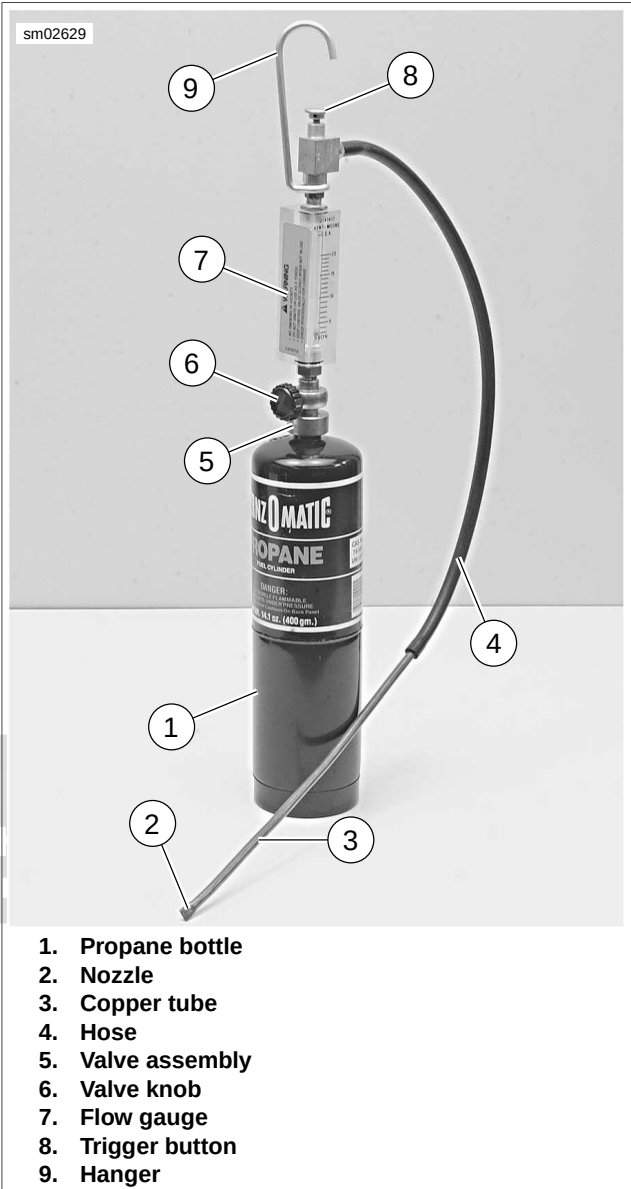

Figure 4-45. Leak Tester
- See Figure 4-45. Make sure valve knob (6) is closed (fully clockwise).
- Screw valve assembly (5) onto propane bottle (1).
- See Figure 4-45. Press and hold trigger button (8).
- Slowly open valve knob (6) until pellet in flow gauge (7) rises to between 5 and 10 SCFH on gauge.
- See Figure 4-45. Press and release trigger button (8) to dispense propane. Tone of engine will change when propane enters source of leak. Repeat as necessary to detect leak.